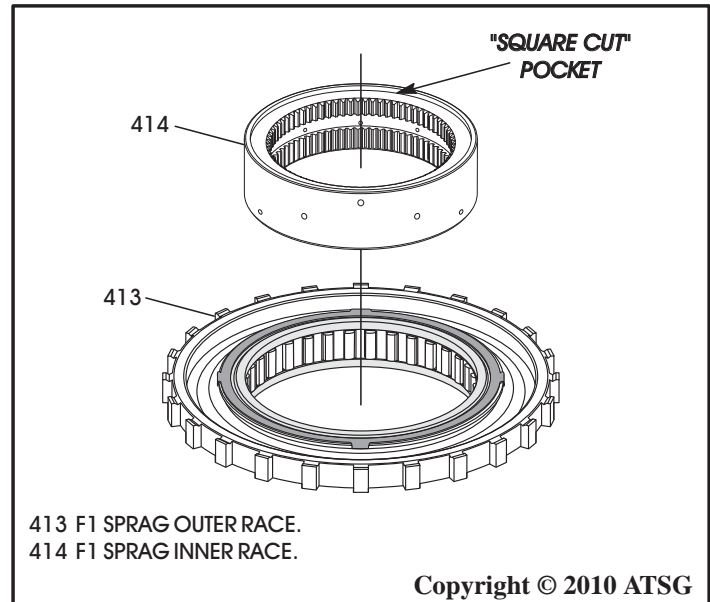

Figure 111
9. Turn F1 sprag assembly over again and install the F1 sprag inner race with the "square cut" pocket facing up, as shown in Figure 111.